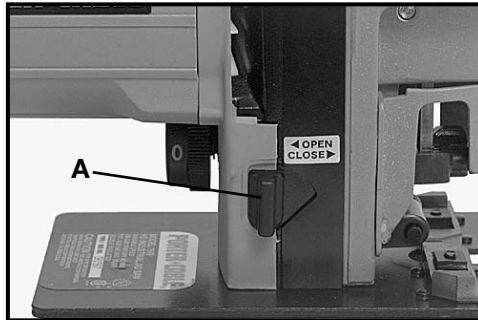

Fig. 8
This saw is equipped with a chip blower to keep the cutting area free of chips. This blower may be switched “ON” or “OFF” by moving lever (A), Fig. 8, to the “OPEN” position (blower “ON”) or the “CLOSED” position (blower “OFF”).